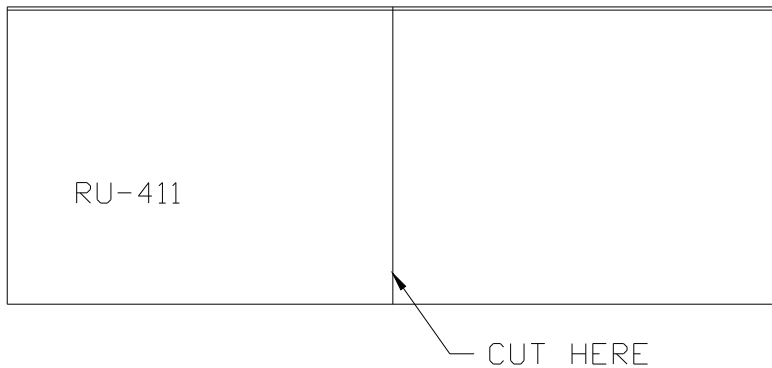

Figure 4.2.5
8) Cut the RU0411 doubler material in half. Figure 4.2.5.